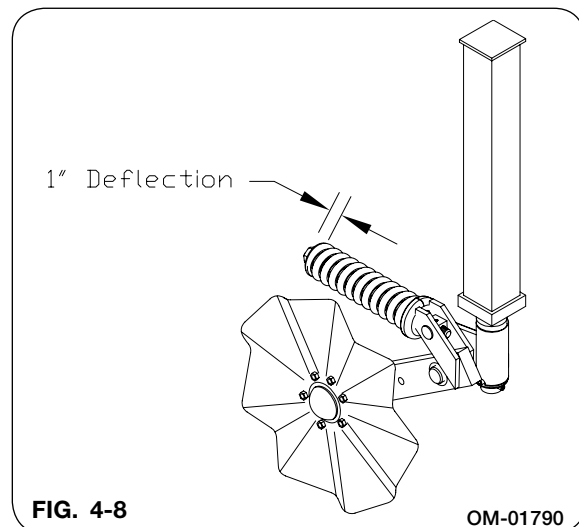

FIG. 4-8
4. Tighten bolt until a deflection of 1" is obtained on spring (FIG. 4-8).